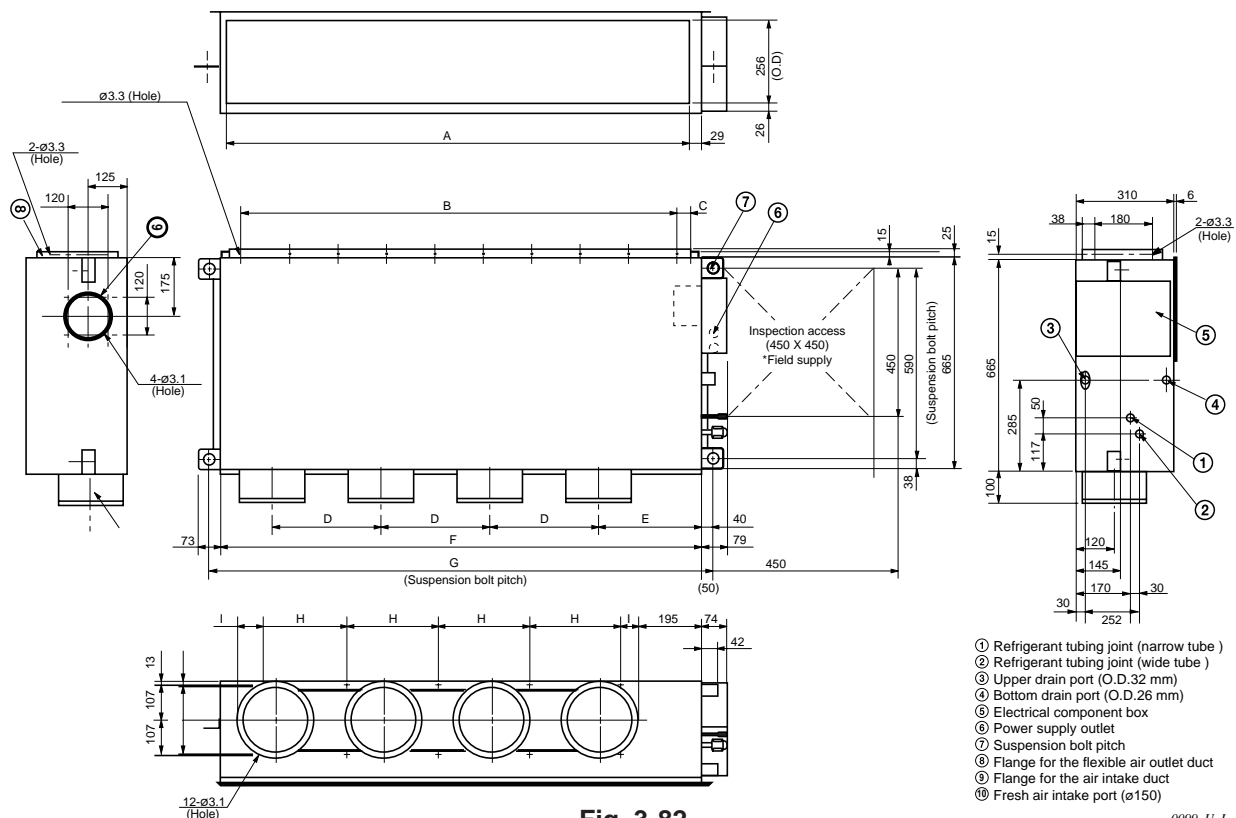

Fig. 3-82
- Fig. 3-82 and Table 3-5 show the detailed dimensions of the indoor unit.
- (1) When placing the unit inside the ceiling, determine the pitch of the suspension bolts referring to the dimensional data on the previous page. (Fig. 3-82)